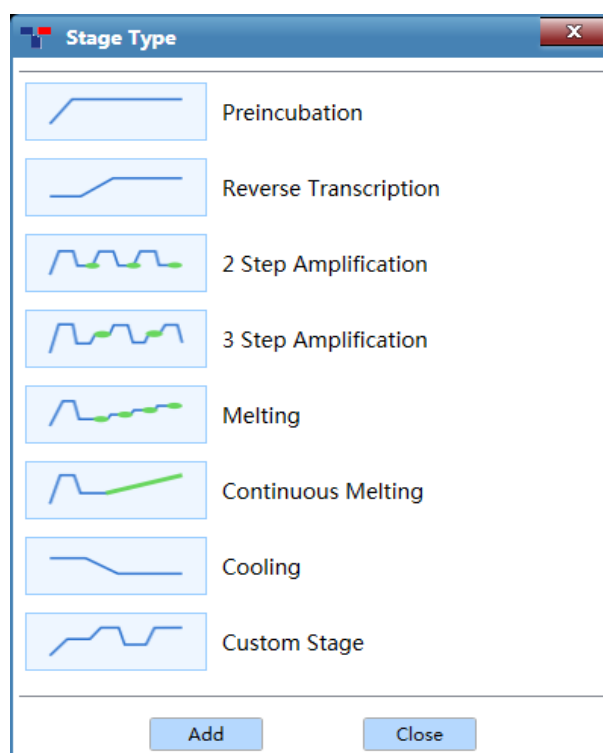

Figure D-5.4 Stage Type window
► If user add a new stage, the application software will automatically pop up a stage type window, as shown in figure D-5.4.